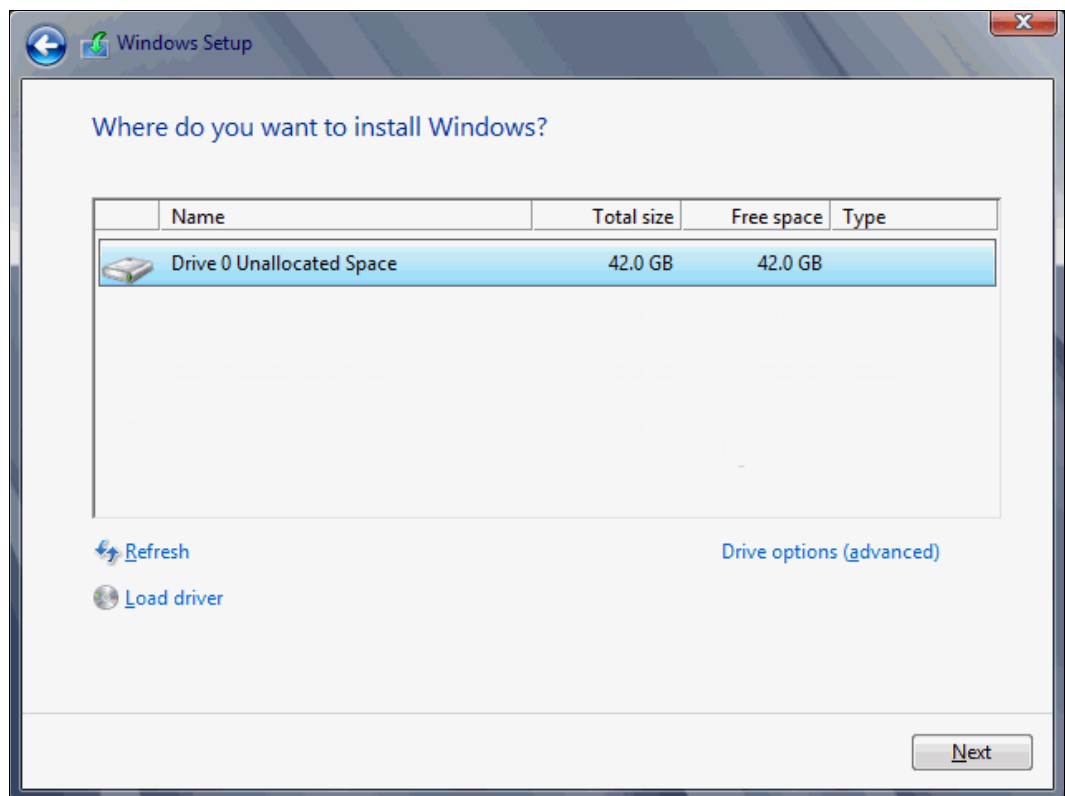

Figure 9-64 Selecting the disk to install on
7. In the “Where do you want to install Windows” panel (Figure 9-64), when you see your LUN, select the disk, and then click **Next**.